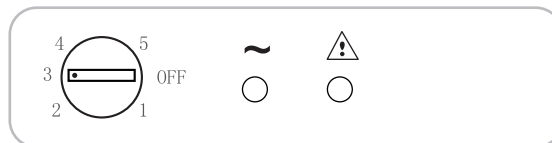

Fig. 1
- The temperature adjustment of both compartments is effected by rotating the thermostat knob (Fig. 1). Select the desired position: